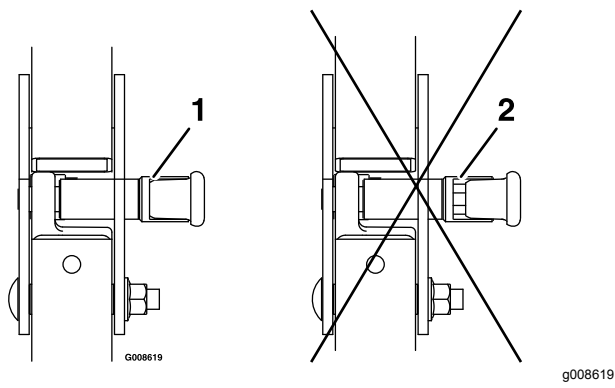

Figure 5
4. Push on the roll bar and ensure that both pins are engaged (Figure 5).